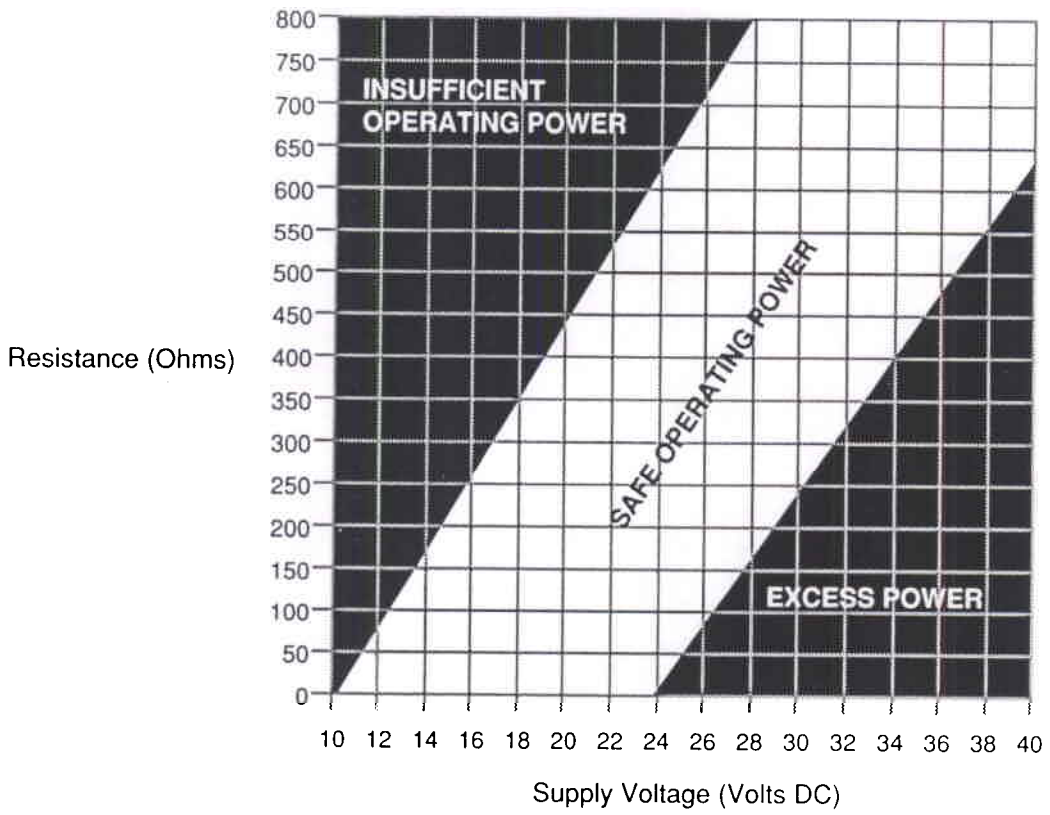

Figure 6.2 4-20 mA Level Transmitter: Loop Resistance vs Supply Voltage
4. Maximum loop resistance vs. supply voltage is illustrated in Figure 6.2. Maximum resistance is the sum of cable resistance, safety barrier resistance, and load or other loop resistance.